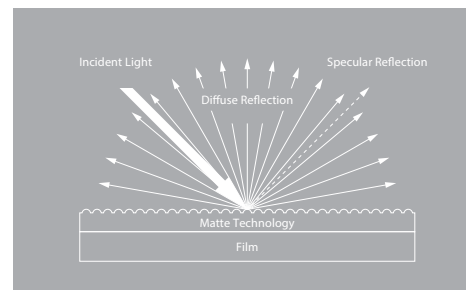

Figure 2: New Matte Film Technology
- Aesthetics — New matte technology gives the realistic appearance of natural materials (see Figure 2).